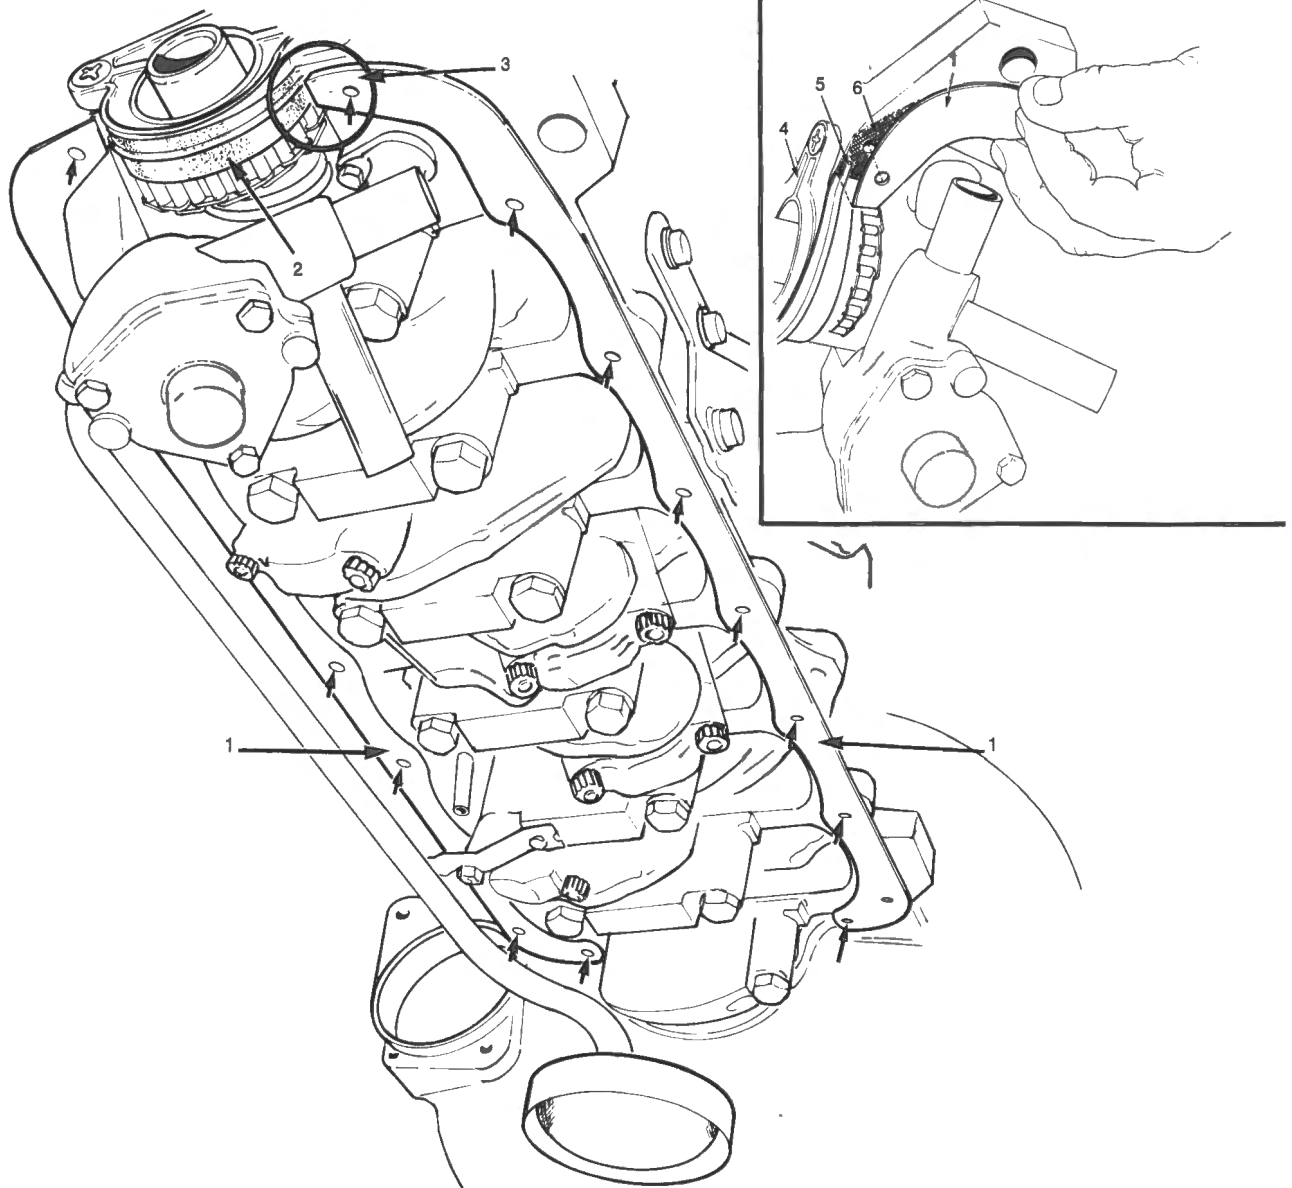

Fig. E-5
- (iii) Position the gasket on the side rails so that all holes line up, and the end of the gasket at the front abuts with the lug on the front seal, while at the same time it is positioned on top of the sealing rib. Refer Fig. E-5.